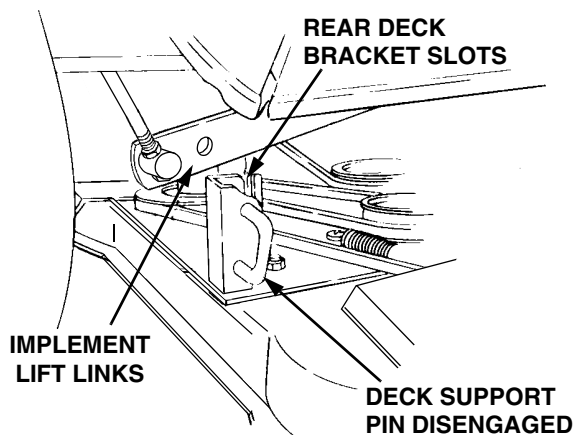

Figure 33
9. If not already done, pull the deck support pins outward, turn downward and release so both spring-loaded pins are held in the disengaged position against the outer surface of the deck brackets (See Figure 33).